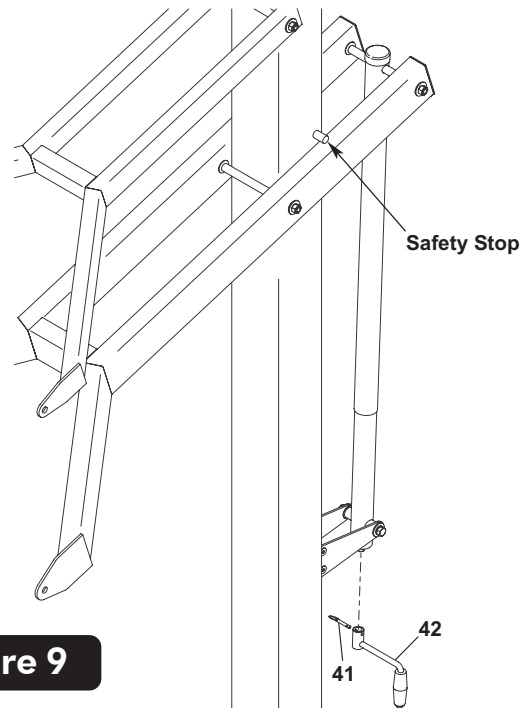

Figure 9
- Slide Actuator Crank (#42) onto shaft on the bottom of Actuator (#16). Line up hole in shaft with hole in Actuator Crank and insert Pull Pin (#41) to secure. See Figure 9.